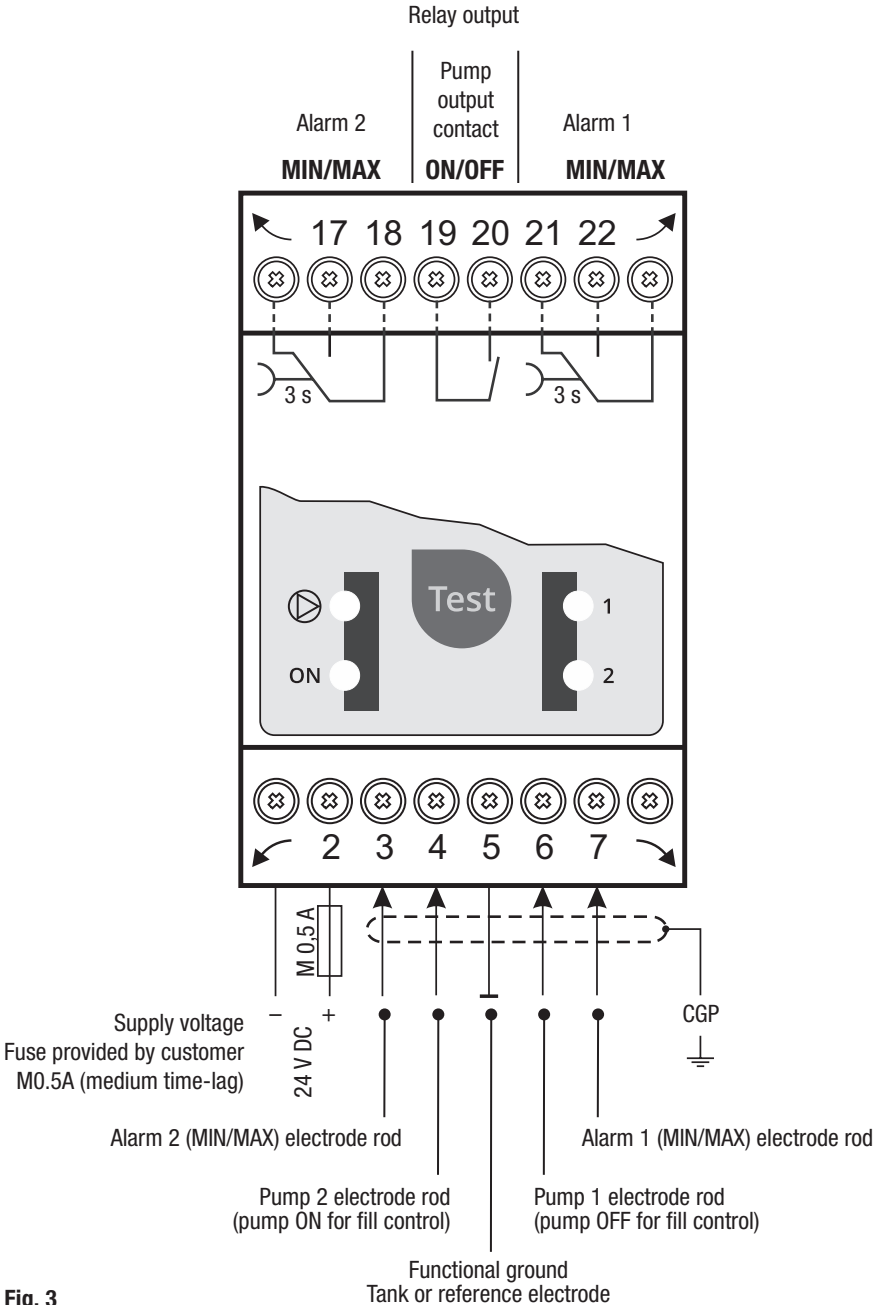

Fig. 3
- Connect the level switch and all associated components as shown in the wiring diagram in **Fig. 3** of this Manual.
- Connect the outputs as shown in the wiring diagrams in **Fig. 3**.